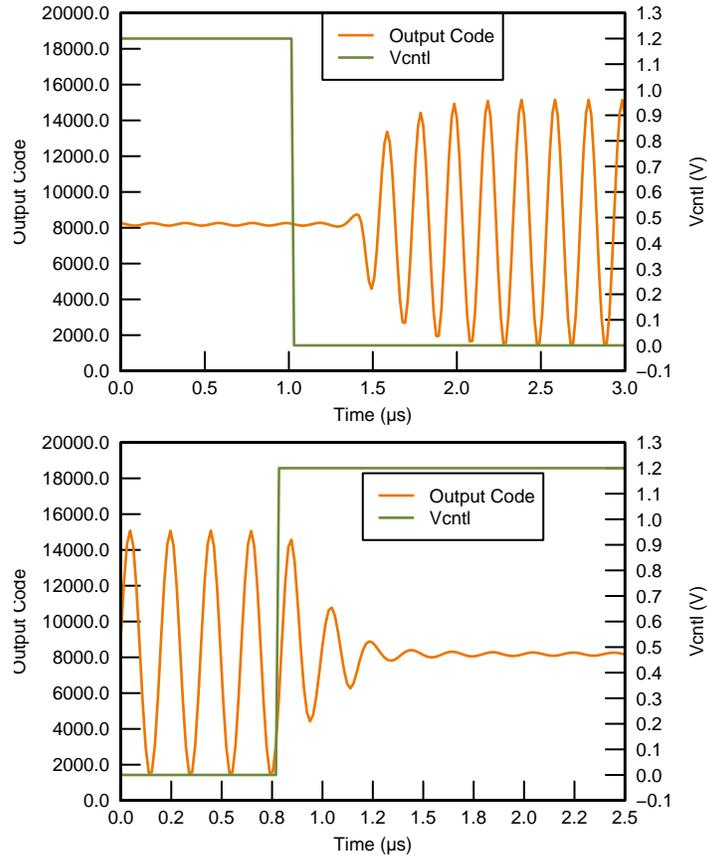

Figure 8. Control Voltage and Settling Time Relationships
The attenuator is controlled by a pair of differential control inputs, the V_{CNTLM} and V_{CNTLP} pins. The differential control voltage spans from 0 to 1.5 V. This control voltage varies the attenuation of the attenuator based on its linear-in-dB characteristic. Its maximum attenuation (minimum channel gain) appears at $V_{CNTLP} - V_{CNTLM} = 1.5$ V and minimum attenuation (maximum channel gain) occurs at $V_{CNTLP} - V_{CNTLM} = 0$. When only single-ended V_{CNTLP} signal is available, this 1.5-Vpp signal can be applied on the V_{CNTLP} pin with the V_{CNTLM} pin connected to ground; As Figure 5 and Figure 8 show, the TGC gain curve is inversely proportional to the $V_{CNTLP} - V_{CNTLM}$.
- Settling time requirement: Without external filtering, the gain control response time is typically less than 1 μs to settle within 10% of the final signal level of 1VPP (-6-dBFS) output as indicated in Figure 8.